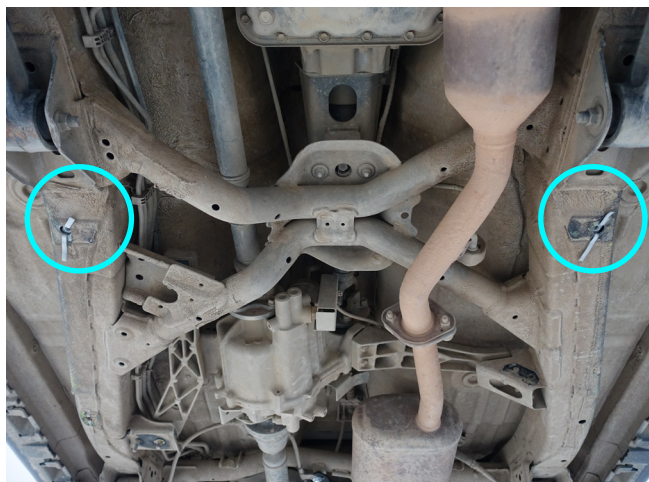

Fig. 5
5. Install insert nuts M8 (item A) in the OE frame holes as shown in fig.5.